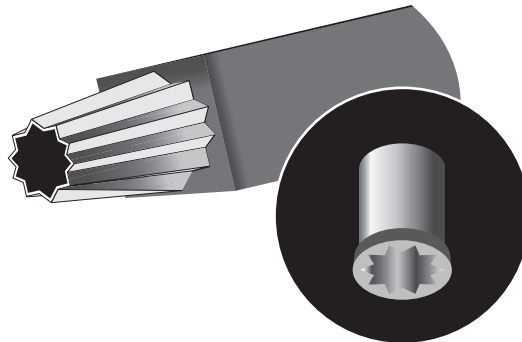

Figure 6 Canon's BJC-8200 uses a star-shaped nozzle to improve the placement and shape of droplets for improved resolution and better print quality.
- *Improved ink nozzles.* By reducing the size of the ink nozzles, a smaller dot is possible, improving the look of both black text printing and color images. For example, Canon's BJC-8200 introduced a star-shaped nozzle capable of producing a truly round dot with more precise ink placement to further improve print quality (see Figure 6). Some recent printers also use a staggered two-column print head for each color, using one column of nozzles for lower-resolution photo printing and adding the second column of nozzles for high-resolution printing by filling in the gaps between the nozzles in the first column.